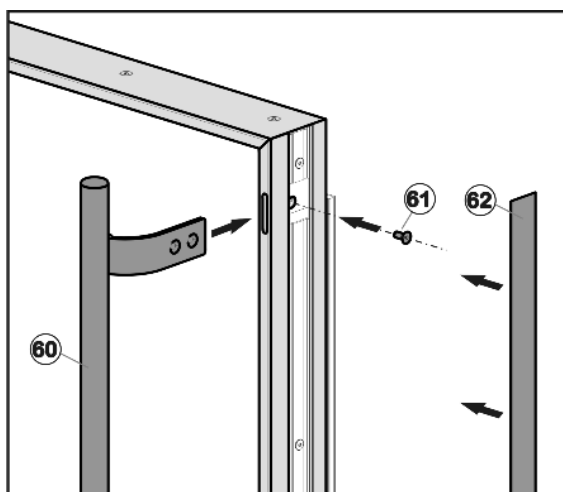

Fig. 51
- ▶ Push handles Fig. 51 (60) into the openings in the door and screw on Fig. 51 (61). Press cover trim Fig. 51 (62) into position.